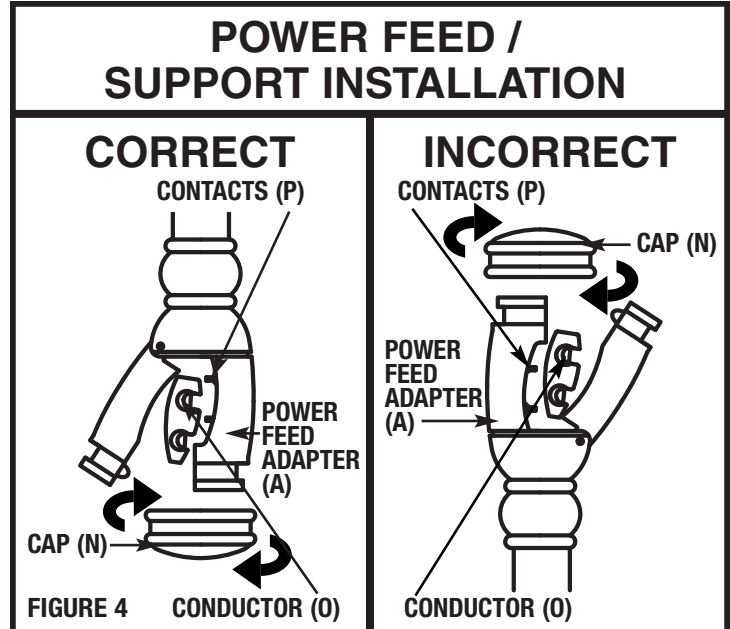

FIGURE 4
INSTALL RAIL ONTO POWER FEED AND SUPPORT (Fig. 4)
1. Unthread caps (N) from rail adapters (A, H).
2. Install rail into rail adapters (A, H) so conductors (O) face contacts (P) of power feed (see Fig 4). *Please make sure contacts (P) fit into rail conductors (O) properly. NOTE: If power feed or support adapters are not able to close around rail, turn rail around so adapter fits properly (see fig. 4).
3. Close adapters (A, H) over rail. Tighten grounding screw on power feed adapter (A) into rail with phillips head screw driver. Replace caps (N).